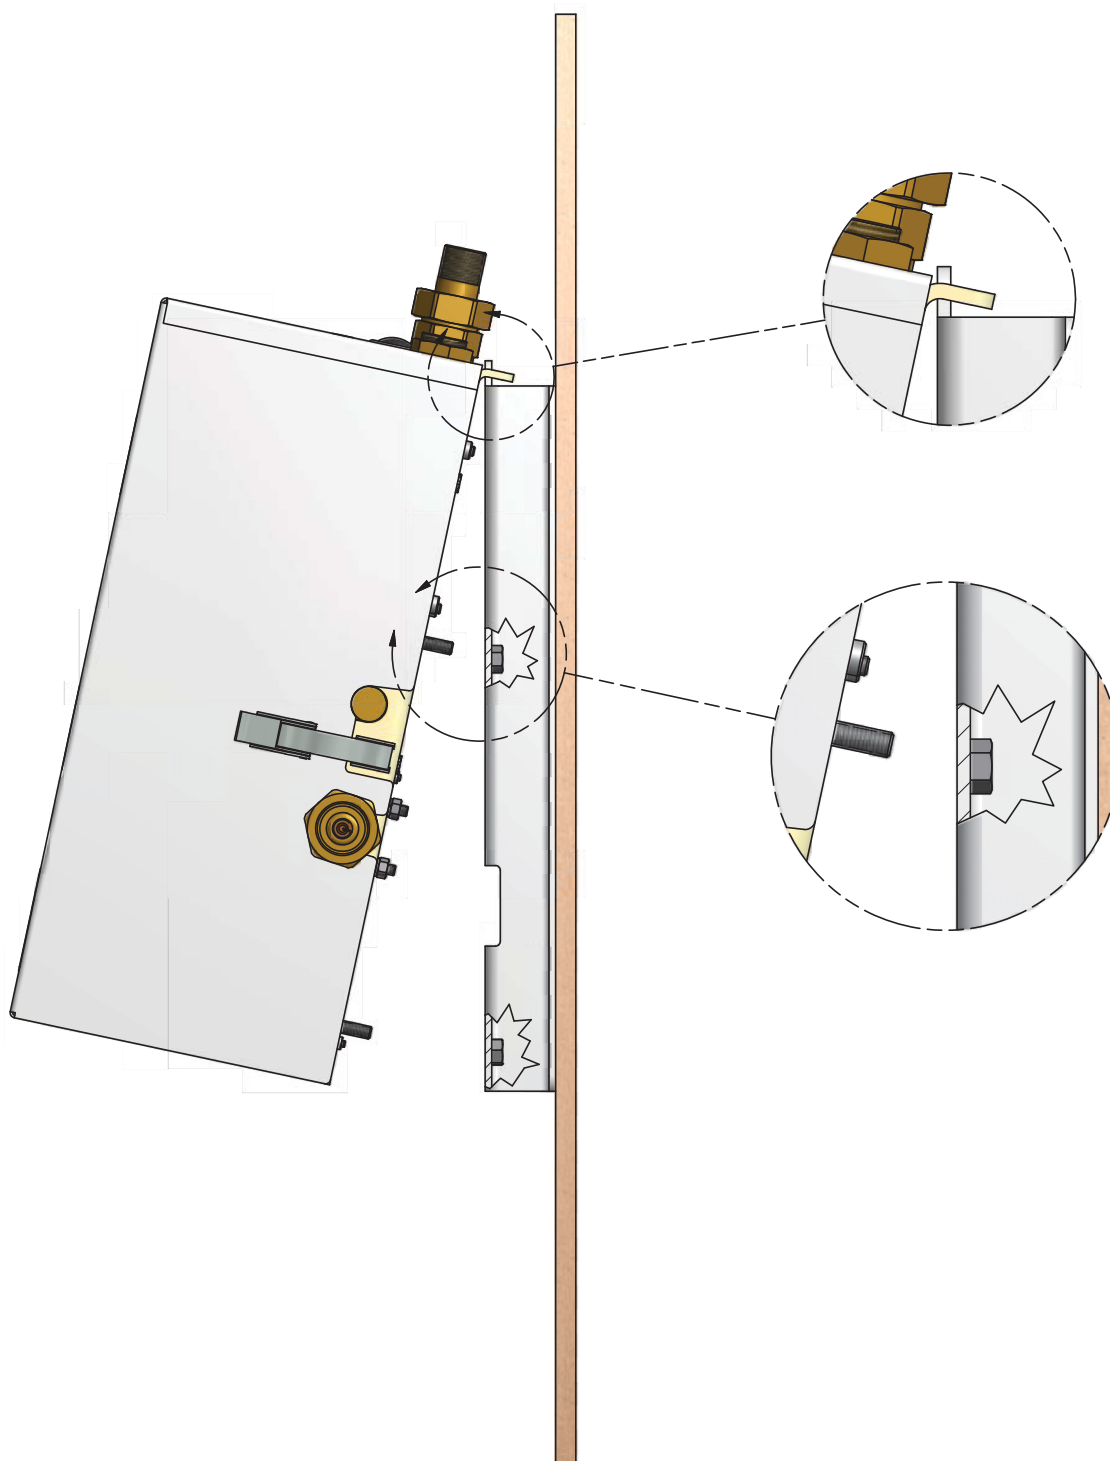

Figure 3
7. Hang manifold control panel on tab of mounting bracket (Figure 3). Using M8 hex bolt, attach manifold to wall bracket through slots in black plate (4 places).
9. Hang manifold control module on tab of mounting bracket (Figure 3). Using M8 hex bolt, attach manifold to wall bracket through slots in black plate (4 places).